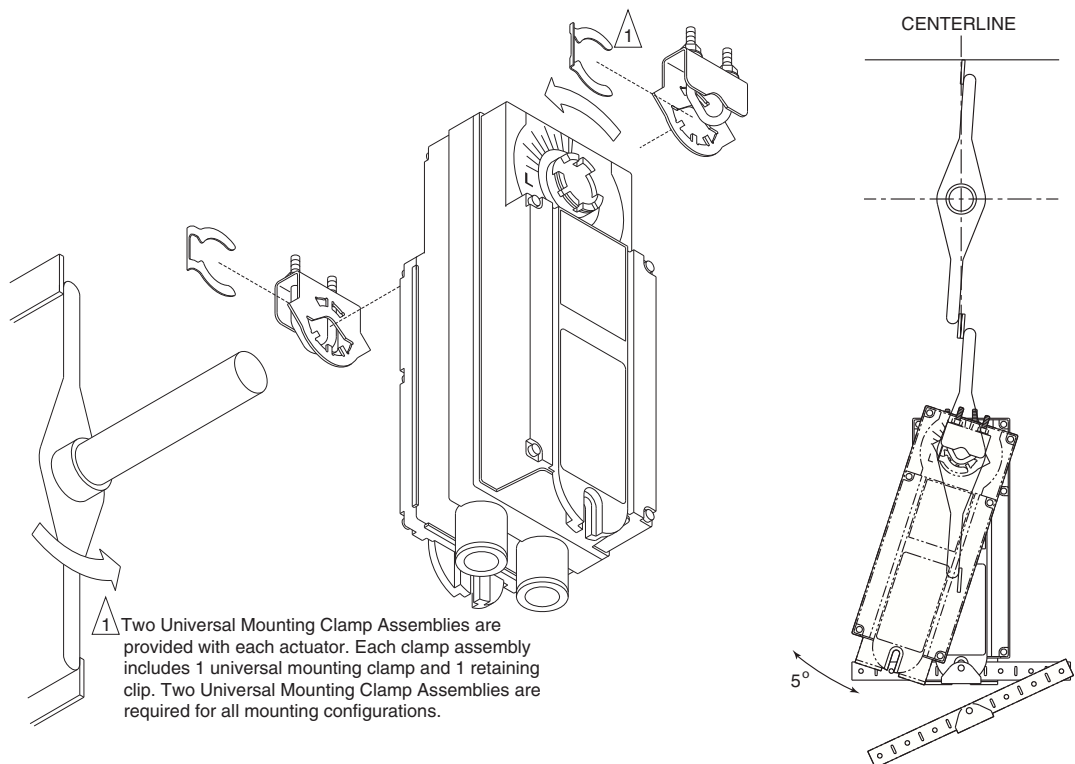
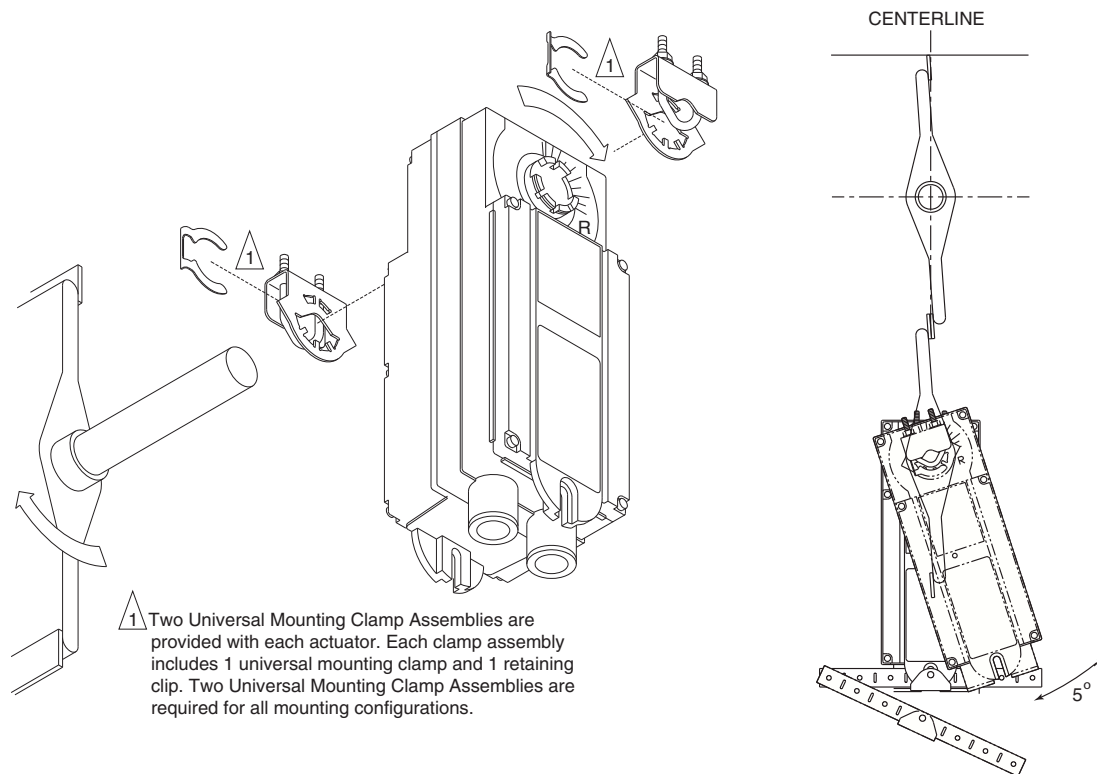

Figure-1 Long Damper Shaft Mounting with Counterclockwise Spring Return for Normally Closed Damper.
Figure-2 Long Damper Shaft Mounting with Clockwise Spring Return for Normally Closed Damper.
- If the damper shaft rotates counterclockwise to the closed position, mount the actuator with the side marked "L" facing the installer. See Figure-1.
7. Attach one side of the anti-rotation bracket to the mounting surface with one of the screws provided. Leave the screw loose so that the bracket can be rotated. See Figure-2 for clockwise or Figure-1 for counterclockwise spring return.
9. Loosen the universal mounting clamps, making sure not to move the damper shaft. Rotate the actuator approximately 5° in the direction which would open the damper. See Figure-1 and Figure-2.